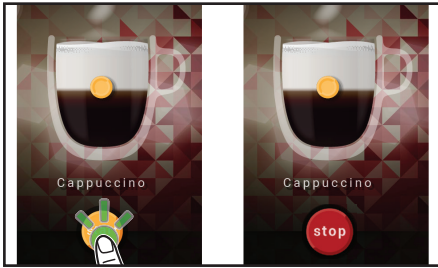

Fig. 4.7 - START and STOP drink delivery
4. Tap on the START drink delivery button on the touch screen (fig. 4.7).
- Tap on the STOP drink delivery button on the touch screen, if you would like to interrupt the drink delivery (fig. 4.7)